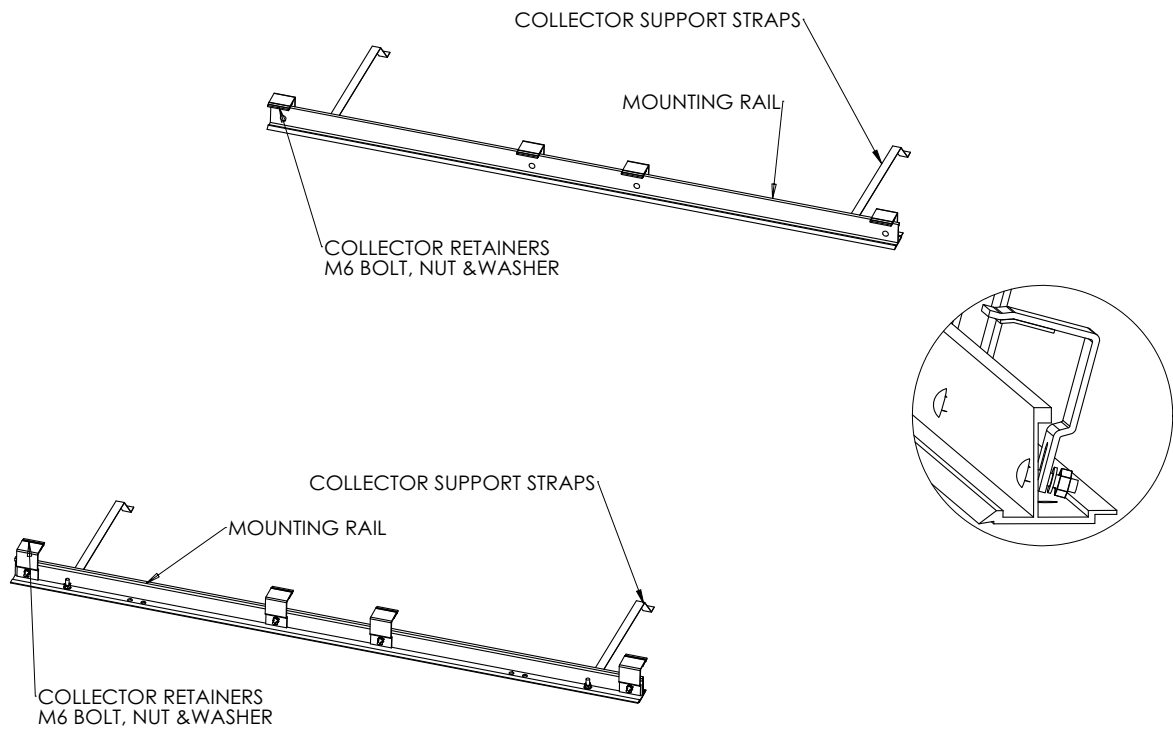

Figure 14 - Collector Mounting Components
- Assemble the collector rail components as shown in **Figure 14** below.